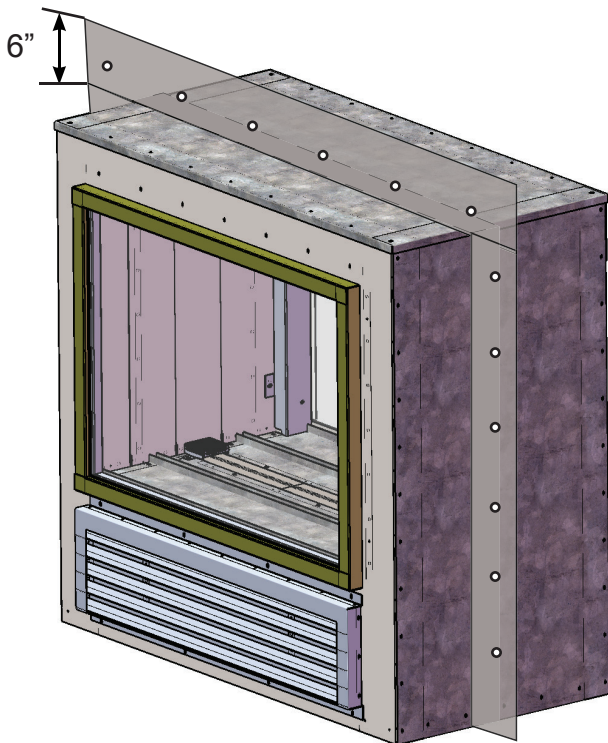

Figure 4: Attach flashing to unit using sheet metal screws provided, apply a bead of silicone to flashing where it meets the unit
STEP 3: Attach the flashing provided to the fireplace exterior using the sheet metal screws provided. (see Fig.4) Apply a bead of silicone to the back of the flashing to ensure a proper seal.